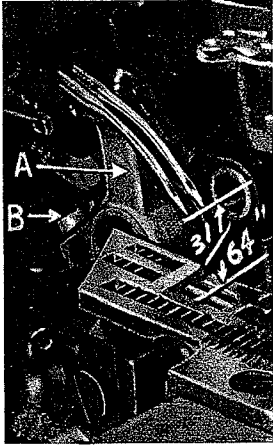

Fig. 3
With throat plate assembled in position, needles should center in the front end of needle slots. When needles are at high position, needle points should be set 31/64 inch above throat plate (Fig. 3). To align or set the height above the throat plate, move needle driving arm (A, Fig. 3) by loosening clamp screw (B). Remove throat plate, after needle has been set properly and clamp screw (B) has been tightened.